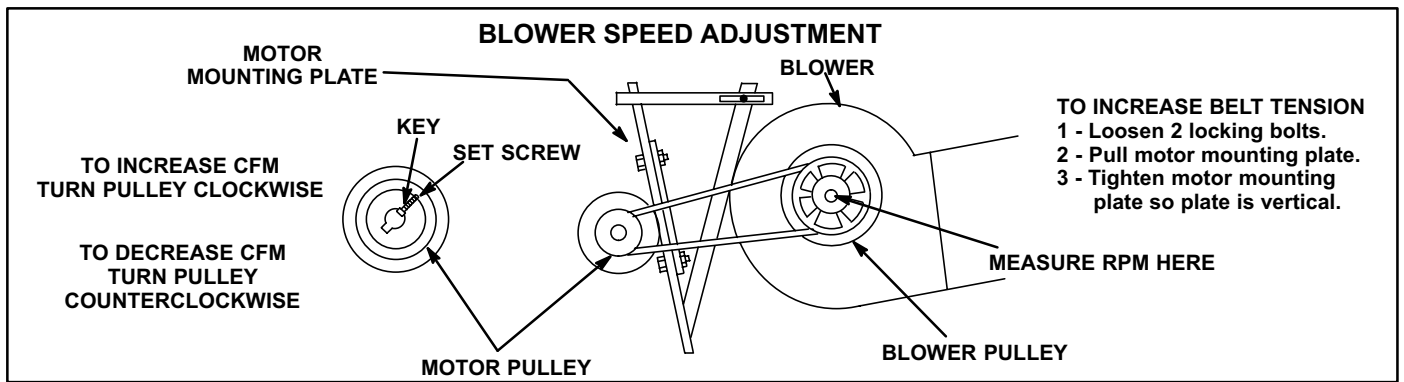

FIGURE 44
- 3- Measure indoor blower wheel RPM (figure 44).
- 2- Loosen the set screws on motor pulley and remove key as shown in figure 44.